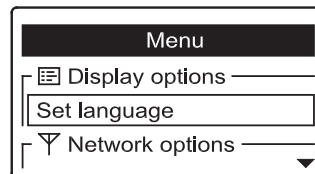

FIG. 100
1. If no device has been added to the remote, the menu shown in Figure 100 is displayed instead of status screens. In this case, skip to step 2. Otherwise, if status screens are shown, press the remote's SELECT (○) button to display a **Menu** screen (See Figure 100).